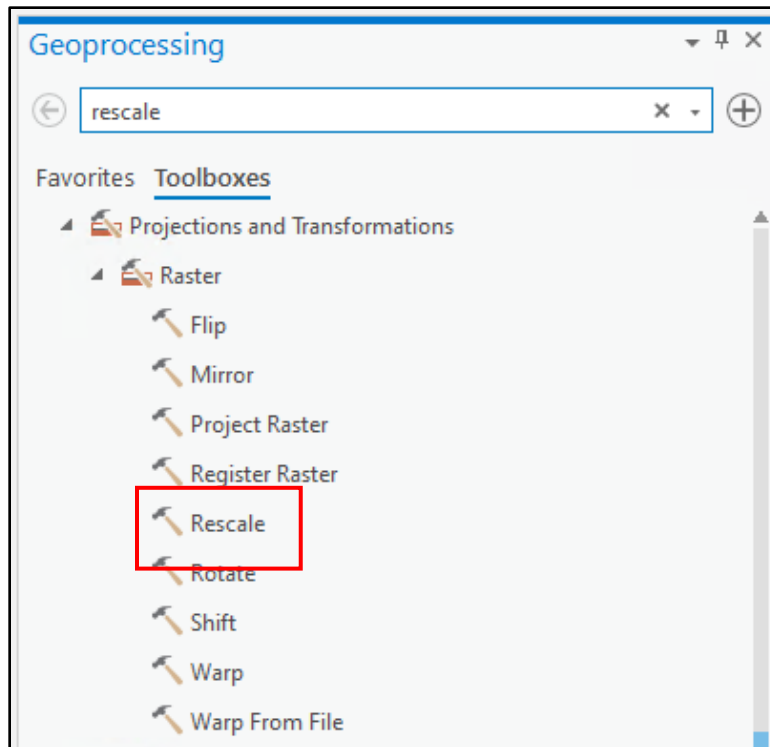

Figure 31
- iii. Access the Rescale tool by going to the ArcToolbox in the geoprocessing pane, expanding "Data Management Tools", then "Projections and Transformations", then "Raster" and double clicking "Rescale" (Figure 31). If making multiple rescales with the same scale factor for plans from the same set, right click over Rescale and choose "Batch" to do multiple (see tip below).